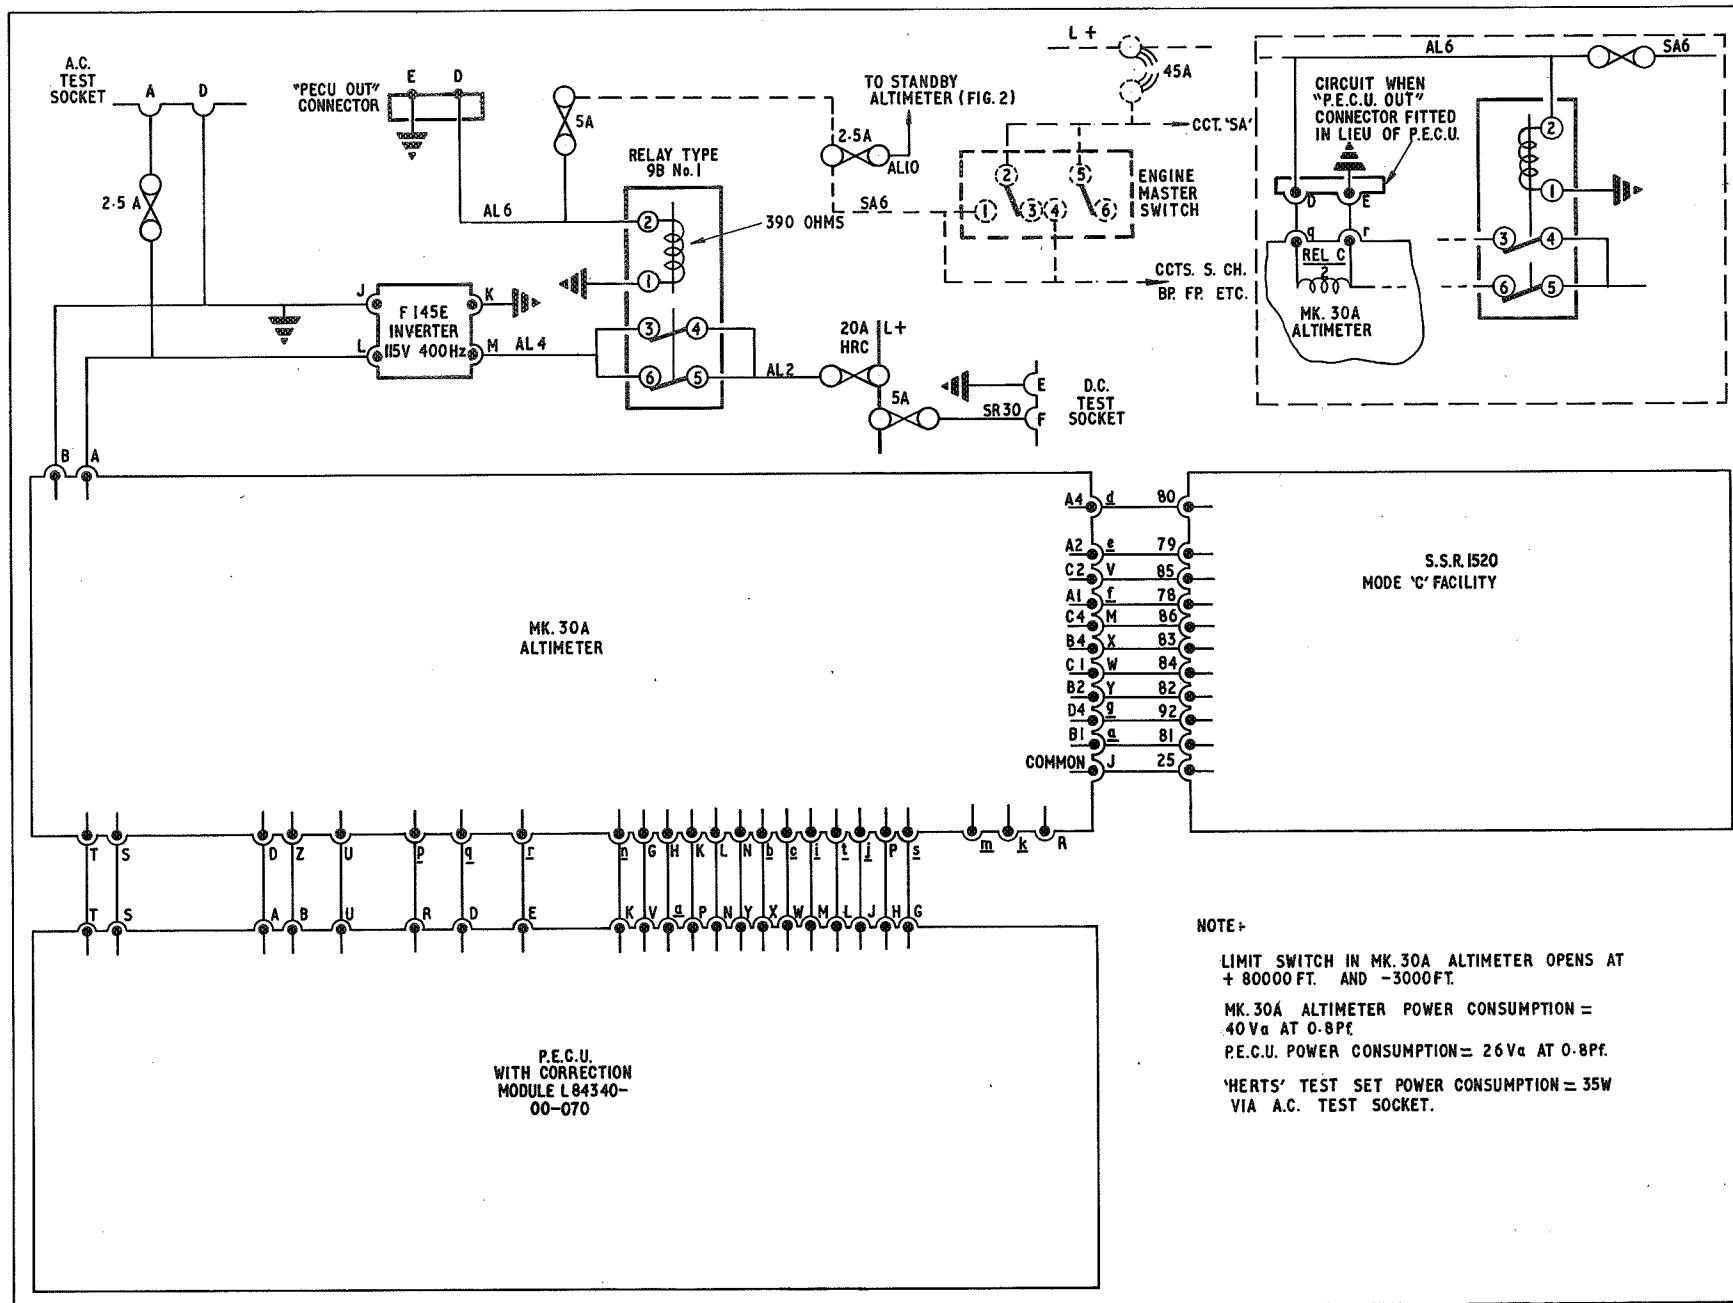

Fig.1 Height encoding altimeter system (theoretical — Mod.1383)
Height encoding altimeter system (theoretical — Mod.1383)	Fig. 1
2. The height encoding altimeter system consists of a Mk.30A altimeter, a PECU and a single-phase 115V 400Hz inverter with its control and protection circuitry. Test sockets for in-situ testing of the system are also provided. Figures 1 to 3 illustrate the system.